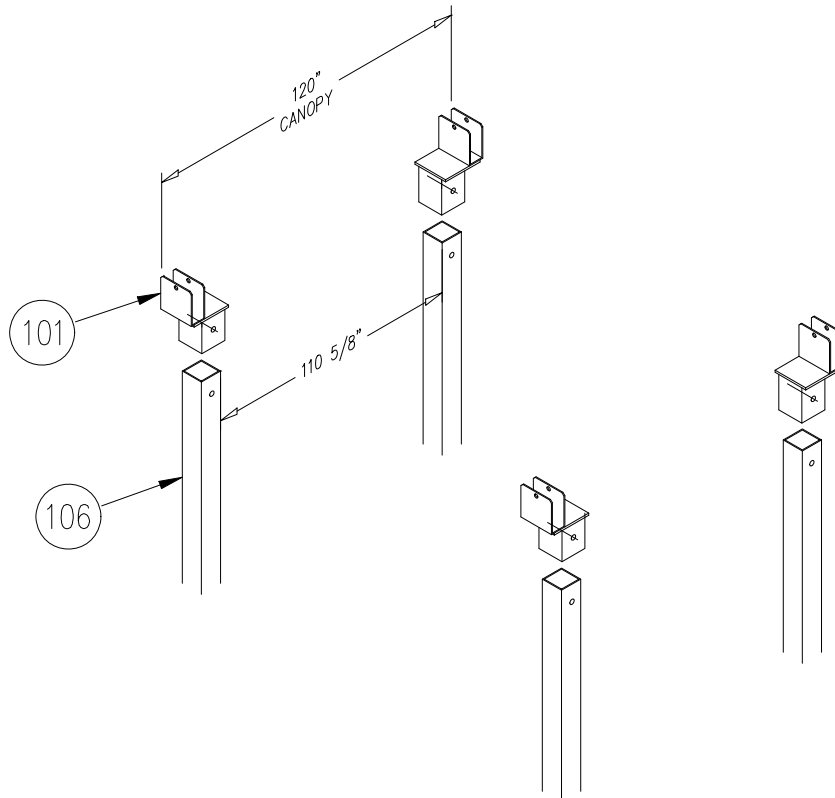

Figure 2-1
1. Refer to **Figure 2-1**. Install canopy adapter to the canopy post legs. The post legs are predrilled for the canopy adapter.